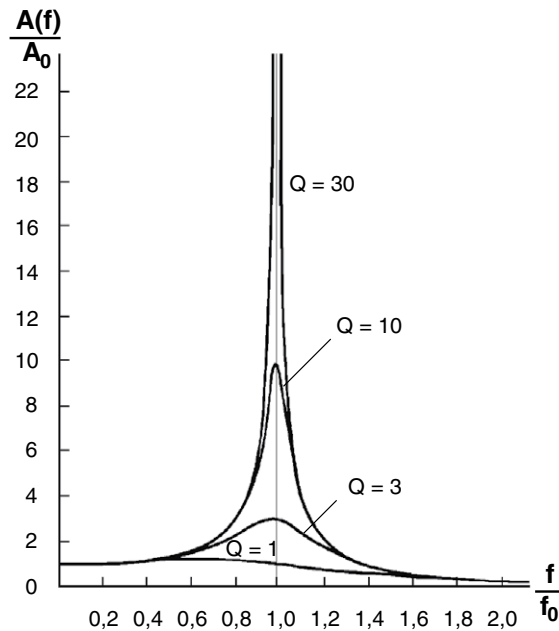

Figure 2–8 Frequency Response Graph
The transfer response is plotted in *Figure 2–8* for various quality factor values (Q), which are dependent upon the amount of damping in the torsional system. The graph charts the factor by which the torque will be amplified, depending on the frequency of the torsional oscillations.